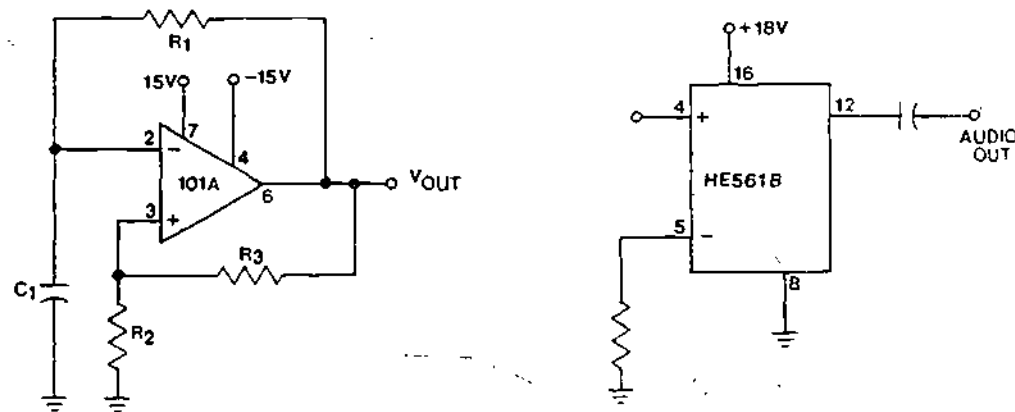

Figure 16
16. The linear IC is represented in a schematic by a triangle or rectangle (see Figure 16).